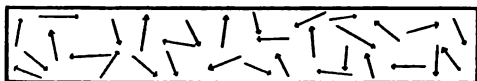
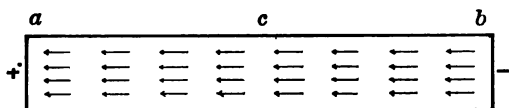

FIG. 200
FIG. 202
The theory states that magnetism is to some degree a *property of the molecules* of iron. In other words, *every molecule in a piece of iron is an independent magnet*, surrounded by its own lines of magnetic force and having its own + and − poles. Ordinarily these magnetic particles assume any position whatever, the direction of their poles bearing no relation to each other. This idea may be roughly shown by the direction of the arrows in Fig. 200.
**310. Explanation of the Poles.** — Representing the directions of the molecular poles once again by arrows (as we did in Fig. 200), in a piece of *magnetized* steel or iron the arrows would all point as in Fig. 202;